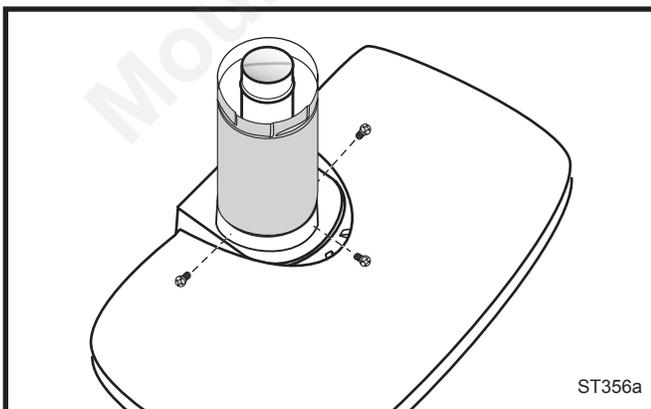

Fig. 21 Simpson Dura-Vent - install outer adapter pipe.
- 3. Install the Outer Adapter Pipe.** Apply a 1/4" bead of cement around the outside surface, about one inch from the crimped end. (Fig. 21) Orient the vertical seam to the rear, and insert the crimped end of the outer pipe into the flue collar. Fasten with three sheet metal screws provided.